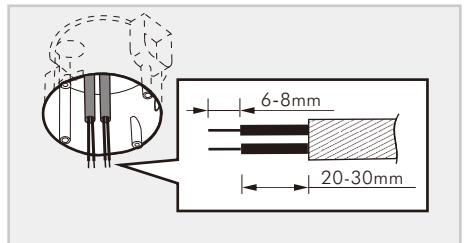

FIG.11
- 3.4.2.1 Pull out AC power cables from European standard junction box (See FIG.11), then strip off 6 - 8mm of cable sheathing for wiring.